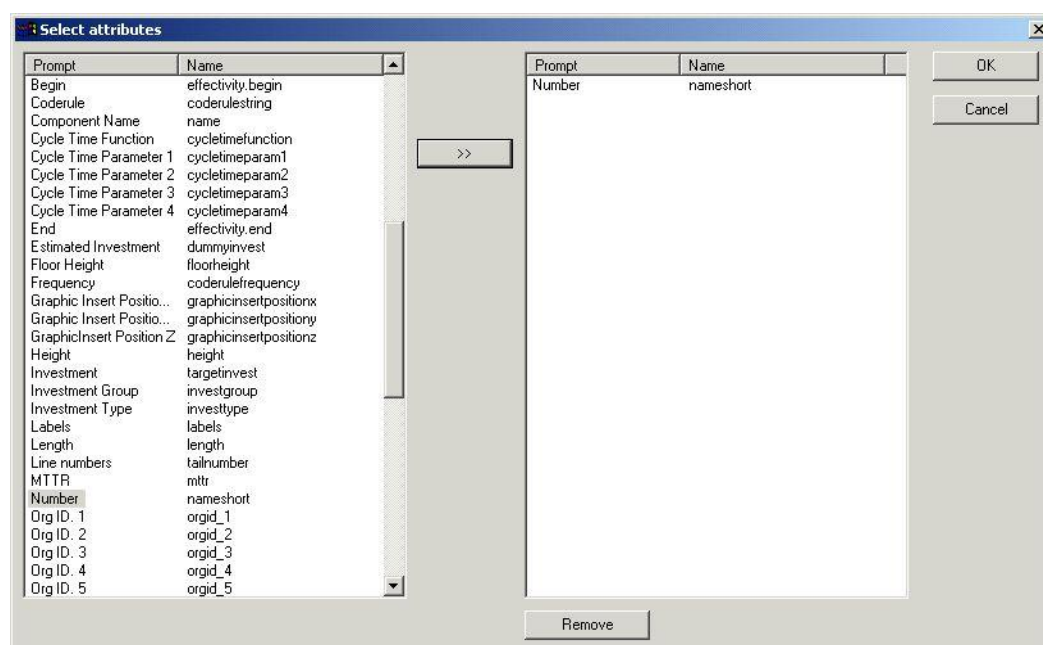

Figure 253: Selecting Attributes Dialog
- **Using the Project Filter for Children:** Whenever you use attributes for either BOM entries or components of the respective plantype are shown in the **Select Attributes** dialog. *Please refer to the Figure 253.*